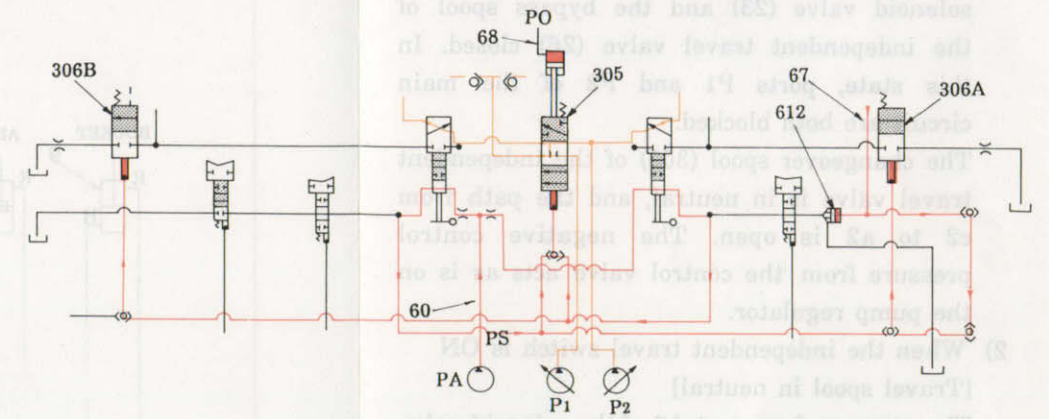

Fig. 7 At composite operation of travel and attachment motions
(2) Switching to travel priority function (Fig. 7)